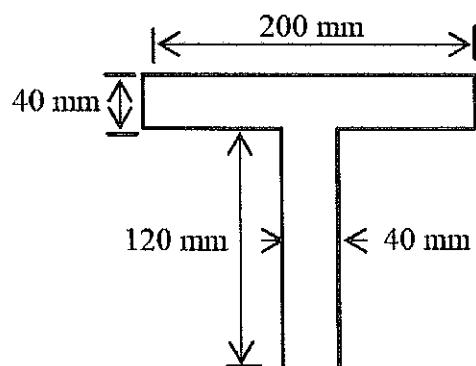

Figure B2 (a) / Rajah B2 (a)
- (a) A T- section of beam given as shown in Figure B2 (a). Based on the basic geometrical shape, determine the centroid of T-Section.